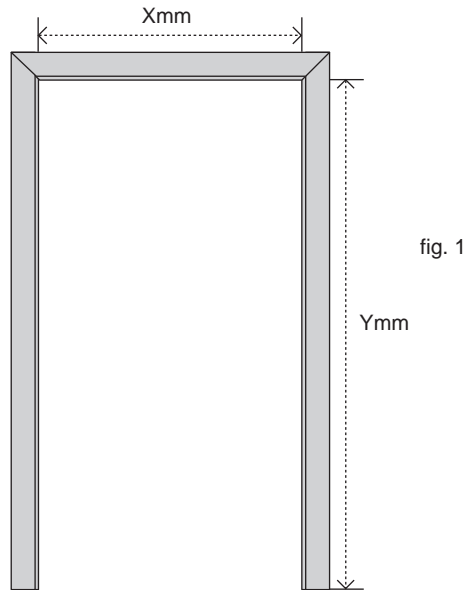
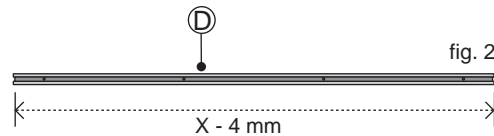
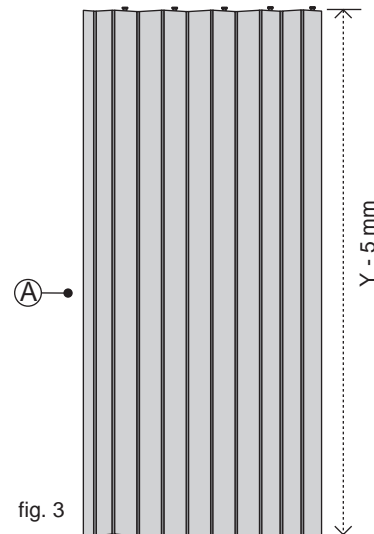

fig. 1
fig. 2
fig. 3
**See fig. 1.**
2. Use a saw to cut the Top Track (D) to 4mm less than the width of the doorway (X - 4mm).
**See fig. 2.**
3. Use a saw to cut the Folding Door (A) and Side Track (B) to 5mm less than the length of the doorway (Y - 5mm).
**See fig. 3 and 4.**